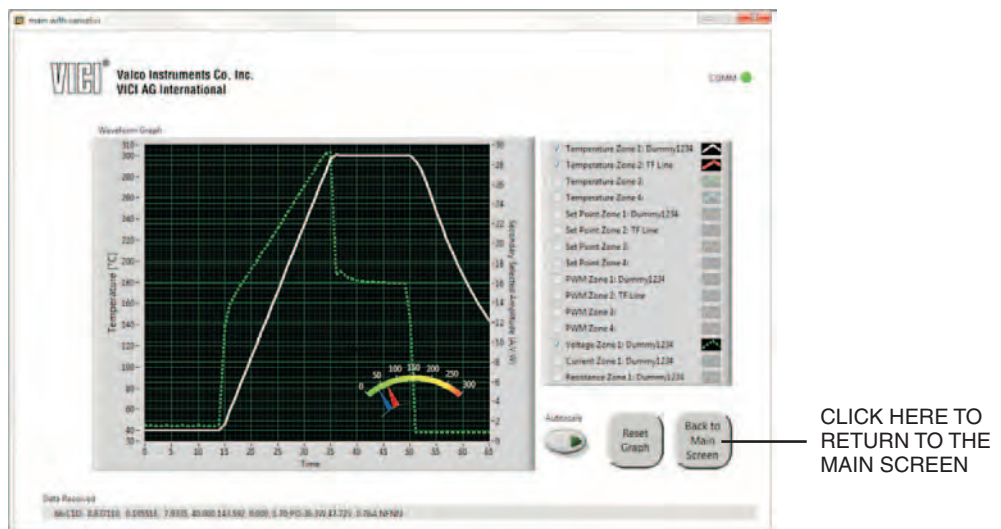

Figure 21: Graph screen showing temperature and current for Channel 1
5. Click the "Show Graph" button to view the graph for the program running on Channel 1 (**Figure 21**).